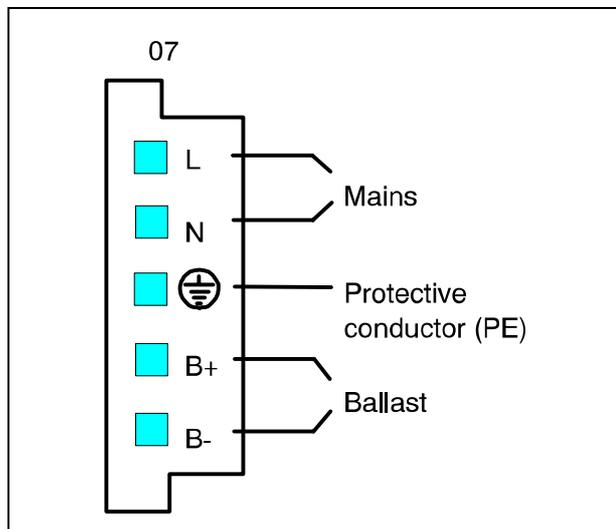

Figure 2-5 Mains and Load Connections
2. Insert the 5 wires into the mating plug terminal block and tighten screws (see figure 2-5).